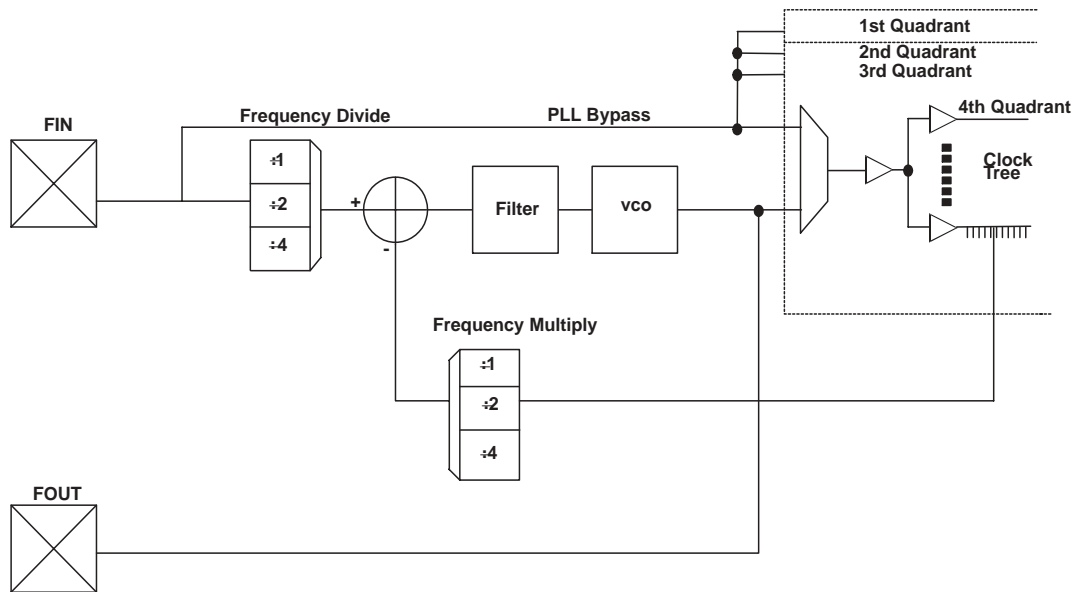

Figure 17: PLL Block
**Figure 17** illustrates a typical QuickLogic FPGA PLL.
Within the PLL, a voltage-controlled oscillator (VCO) is added to the circuit. The external  $F_{in}$  signal and the local VCO form a control loop. The VCO is multiplied or divided down to the reference frequency, so that a phase detector (the crossed circle in Figure 17) can compare the two signals. If the phases of the external and local signals are not within the tolerance required, the phase detector sends a signal through the charge pump and loop filter (Figure 17). The charge pump generates an error voltage to bring the VCO back into alignment and the loop filter removes any high frequency noise before the error voltage enters the VCO. This new VCO signal enters the clock tree to drive the chip's circuitry.
Most QuickLogic products contain four PLLs, one to be used in each quadrant. The PLL presented in **Figure 17** controls the clock tree in the fourth Quadrant of its FPGA. As previously noted, QuickLogic PLLs compensate for the additional delay created by the clock tree itself by subtracting the clock tree delay through the feedback path.
a. The data provided in **Table 19** are JEDEC and PCI Specifications. QuickLogic devices either meet or exceed these requirements. See preceding **Table 1** through **Table 14** and **Figure 1** through **Figure 17** for data specific to QuickLogic I/Os.